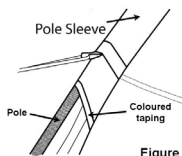

Figure 1
3. Taking each assembled pole in turn, gently PUSH it through the pole sleeve. Avoid standing on the fabric, as this will damage it (see figure 1).